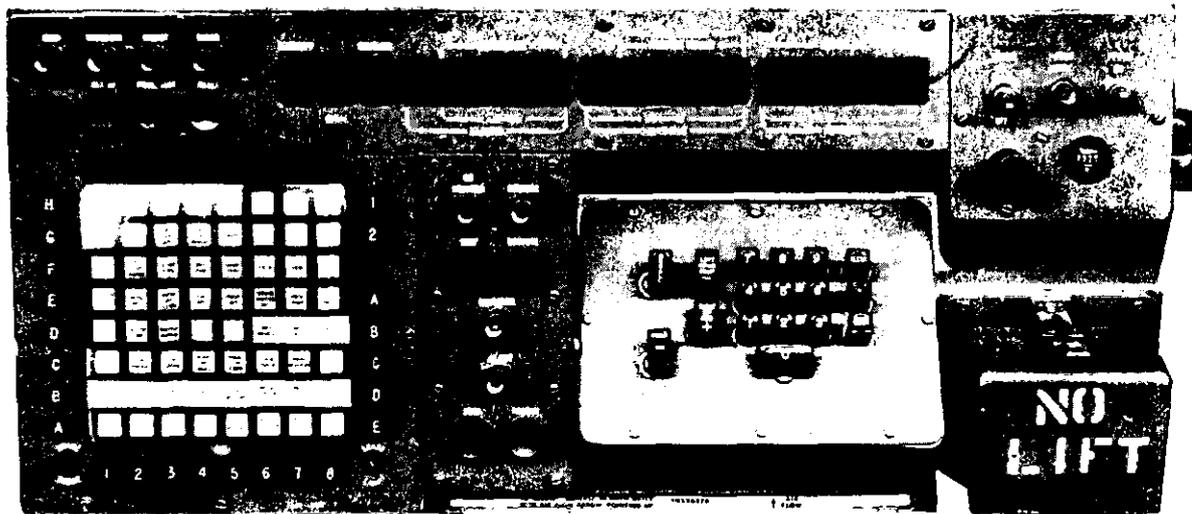

Figure 2. Control panel.
The computer control panel (fig. 2) con-
g. *Display Panel.* The display panel (fig. 2) consists of 18 Nixie tube indicators, which provide numerical, sign, and designation information as it is entered in the computer or as an output display of the solution to a problem. In most instances, the data entered through the keyboard are displayed on this panel and erased when the ENTER key is depressed. The panel is divided into six windows which display the following data:
- (1) The first window, BATTERY, indicates which lettered mission association button, A through E, is depressed.
- (2) The second window, SIGN, displays the algebraic sign (+ or -) associated with a numerical input or output.
- (3) The third window, CHARGE, indicates the security classification of the
The function of each control and indicator on the computer control panel (fig. 2) is described below: